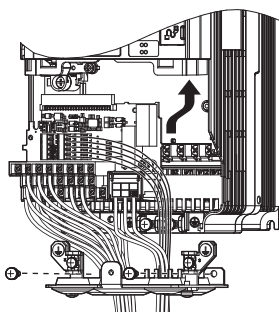

Figure 7.60 Drive Replacement: Installing the Terminal Board
1. Once the main circuit has been wired, connect the terminal block to the drive as shown in Figure 7.60. Use the installation screw to fasten the terminal block into place.